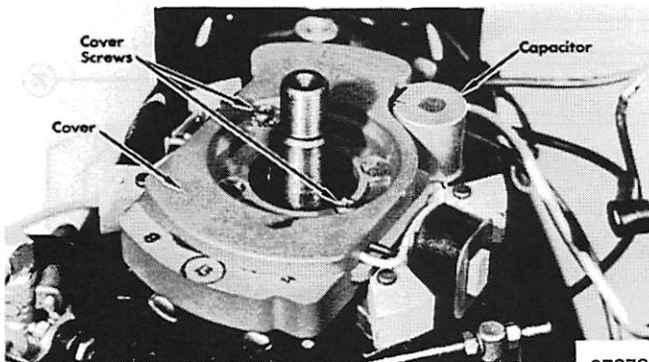

Figure 2. Module Cover Removal
7. To remove or adjust components, remove 2 phillips head screws and remove cover. (Figure 2)